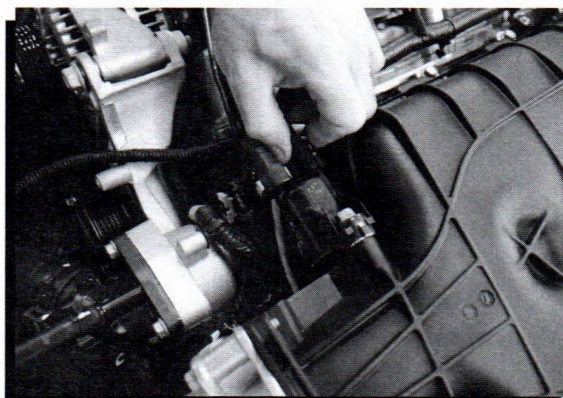

Figure 3 Disconnect the EVAP Solenoid and Tube.
3. Disconnect the PCV hose from the intake, as well as the EVAP Purge Solenoid tube and electrical connector from the passenger side (Figure 3).